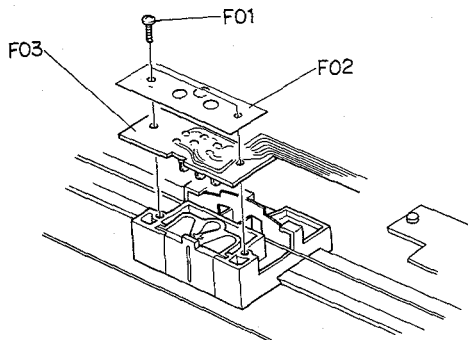

Fig. 3.5
Refer to Fig. 3.5. Remove Front Panel Ass'y referring to items 3.1 – 3.3. Remove F01 and F02 (Lamp P.C.B. Cover), then F03 (Lamp P.C.B. Ass'y).